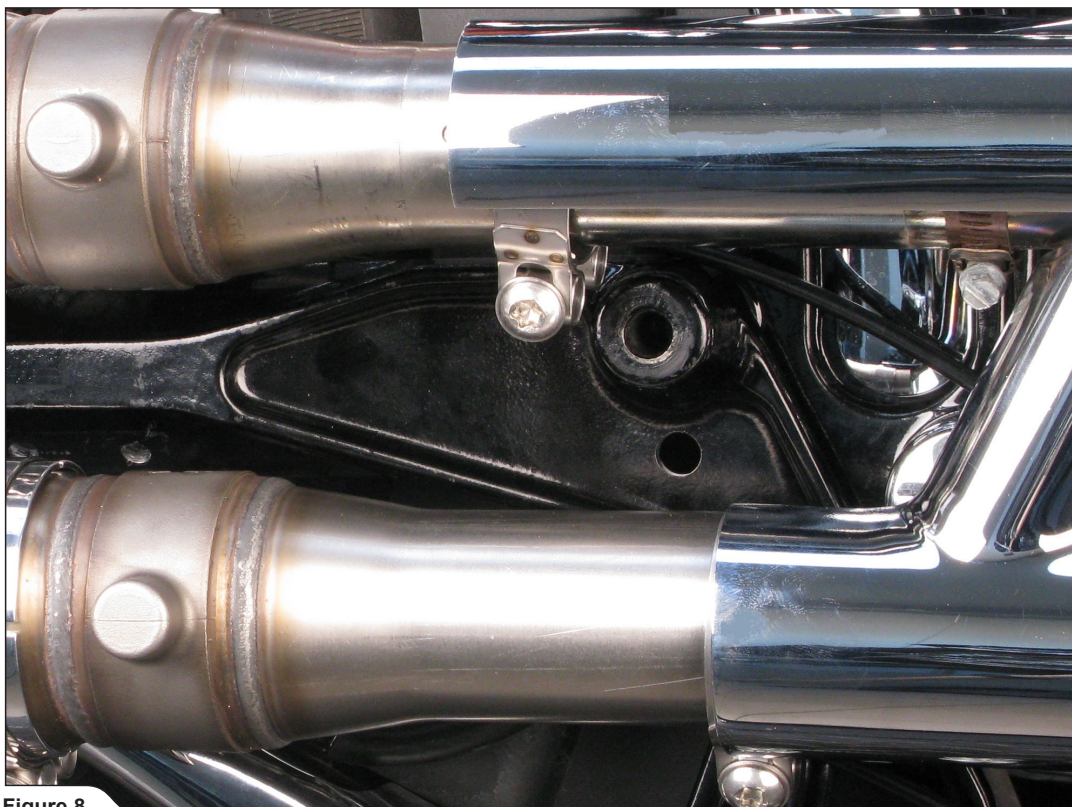

Figure 8
7. Install the valve pipes, connect cables and hand tighten valve pipe - header pipe connection clamps (Figure 8).